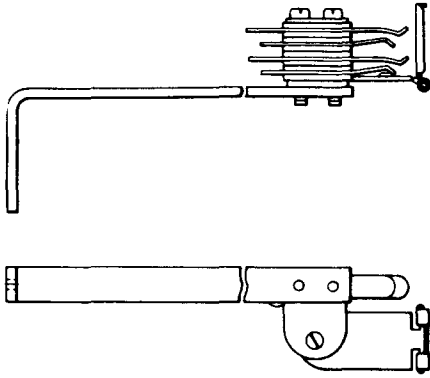

Fig. 13—328 Jack
2.13 **328:** This multicontact jack (Fig. 13) is used with the 240A plug. This jack is primarily used on the 931-type mounting plates in connection with repeaters in Step-by-Step Switching Systems. This jack is provided with a number plate holder. The terminals are designed for mechanically wrapped connections.